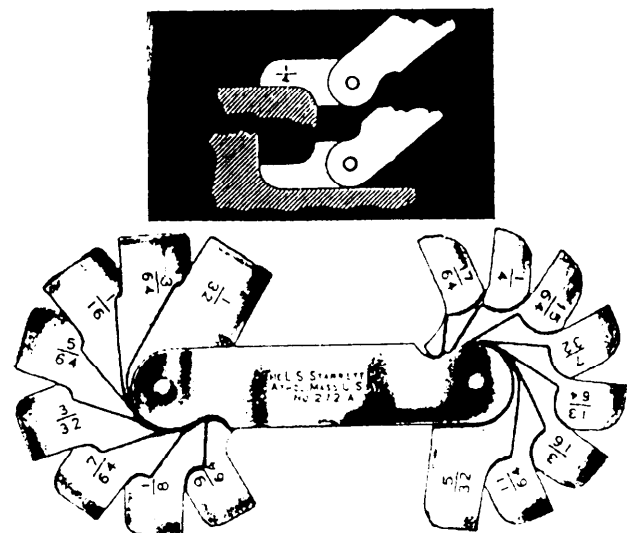

Figure 1-22.—Radius gauges.
**RADIUS GAUGE.**—The radius gauge (fig. 1-22) is often underrated in its usefulness to the machinist. Whenever possible, the design of most parts includes a radius located at the shoulder formed when a change is made in the diameter. This gives the part an added margin of strength at that particular place. When a square shoulder is machined in a place where a radius should have been, the possibility that the part will fail by bending or cracking is increased. The blades of most radius gauges have both concave (inside curve) and convex (outside curve) radii in the common sizes.